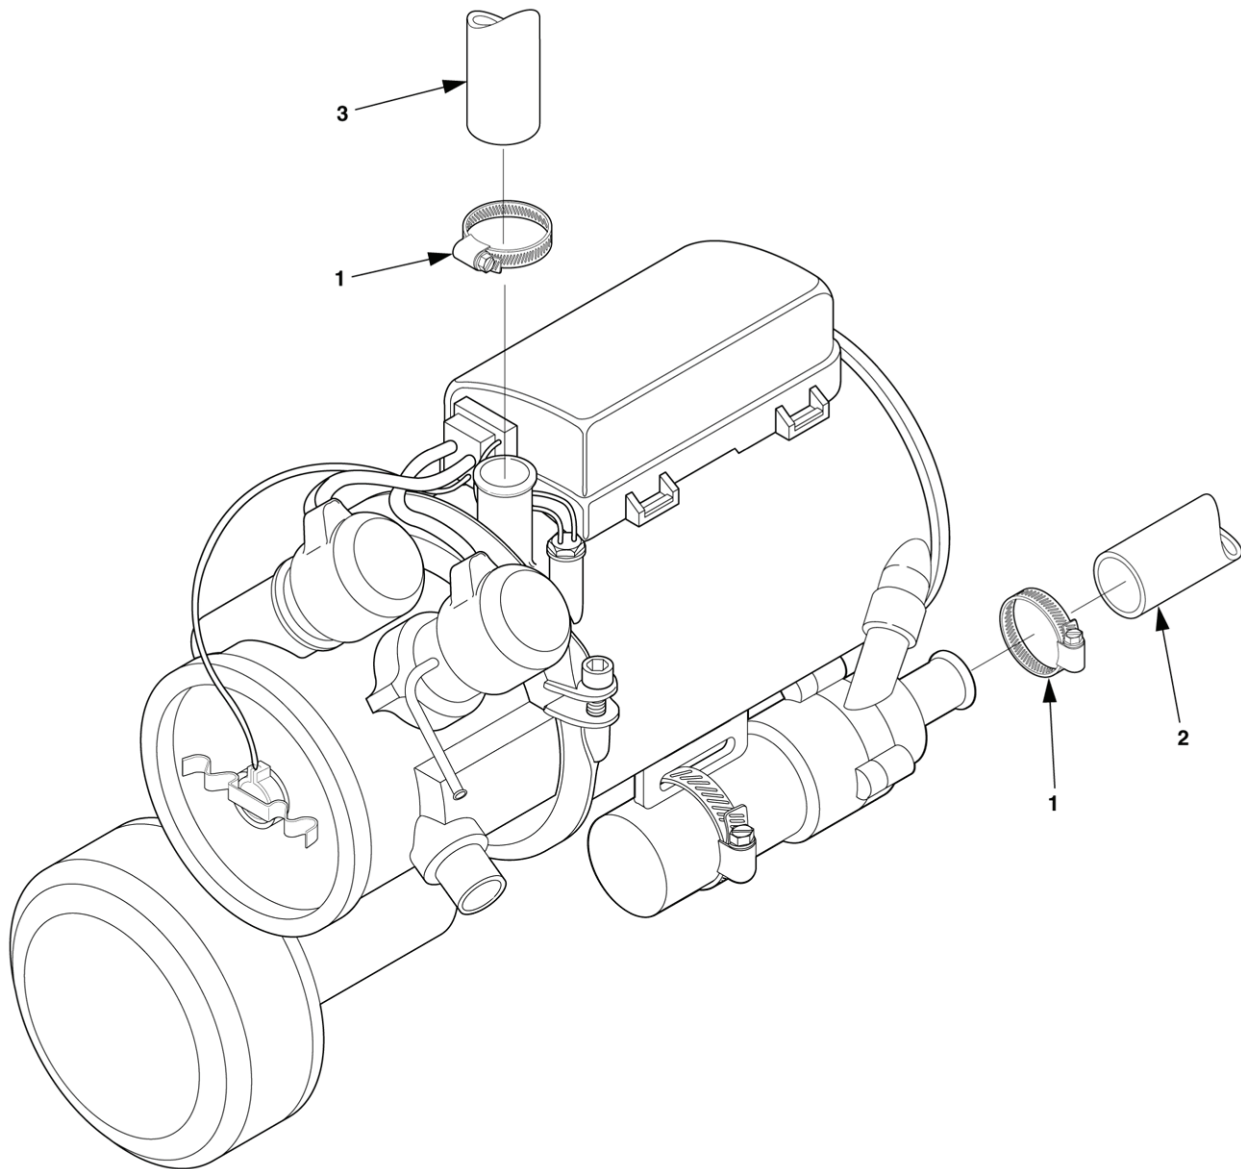

Figure 1. Coolant Hose Maintenance.
2. Loosen screw clamps (Figure 1, Item 1) to disconnect either or both coolant hoses, inlet (2) or outlet (3) from the heater. Drain any coolant from the hoses into a suitable container.
1. Install new hose (Figure 1, Items 2 and/or 3) securing with screw clamps (1).